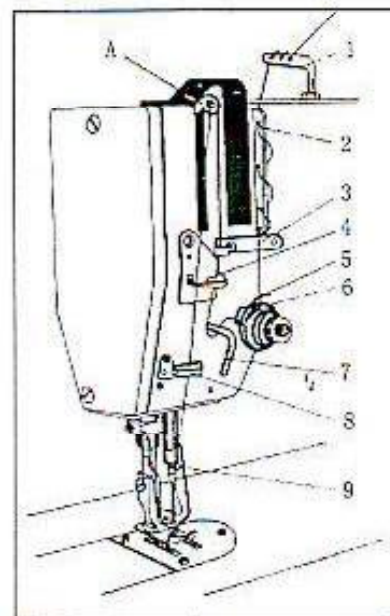

Fig.8
17. To thread upper thread(Fig.8)
Let the take up lever at its highest position. Then threading as shown in Fig.8. Unwind a sufficient portion of thread, and pass it through the thread guide (1) and (2), then lead it through the tension disc (6) and thread take up spring (5), thread guides (7), (4) and (3) into the thread take-up lever. Then downwards through the thread guide (4) and the lower thread guide (8) to the thread guide (9) on the needle bar, and to the needle. Insert it into the needle ear from the front side to the rear side.